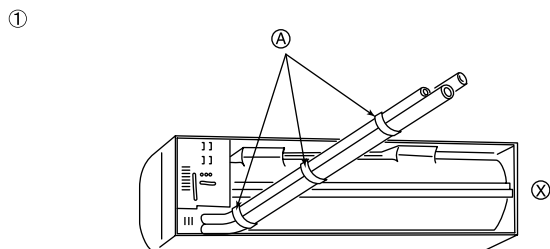
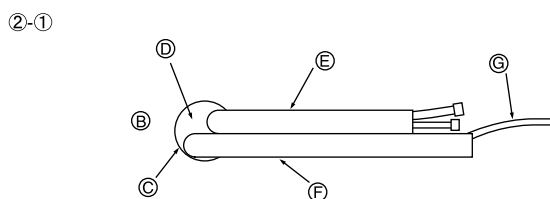

Fig. 3-4
Fig. 3-5
① Rear, right and lower piping (Fig. 3-4)
- (A) Vinyl tape
- (X) This figure is viewed from the back of the unit.
② Left and left rear piping
②-① For left rear piping, pull the pipes out the hole to determine their correct length, then bend them. The indoor unit should hang on the wall mounting fixture. (Fig. 3-5)
- (B) Wall
- (C) Wall hole
- (D) Bent section
- (E) Refrigerant pipe
- (F) Drain pipe
- (G) Transmission cable